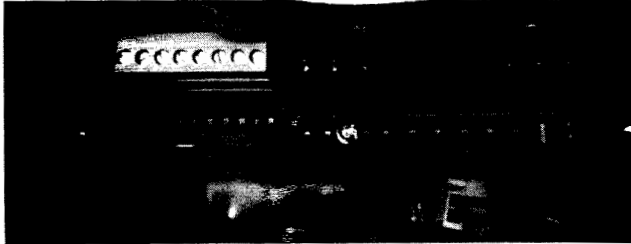

Figure 3 – Exposed Mounting Screws
2. Use a Phillips head screwdriver to remove the six (6) mounting screws from the field connection board. See Figure 3.
4. Use a Phillips head screwdriver to tighten the six (6) mounting screws and secure the field connection board to the mounting location. See Figures 3 and 4.